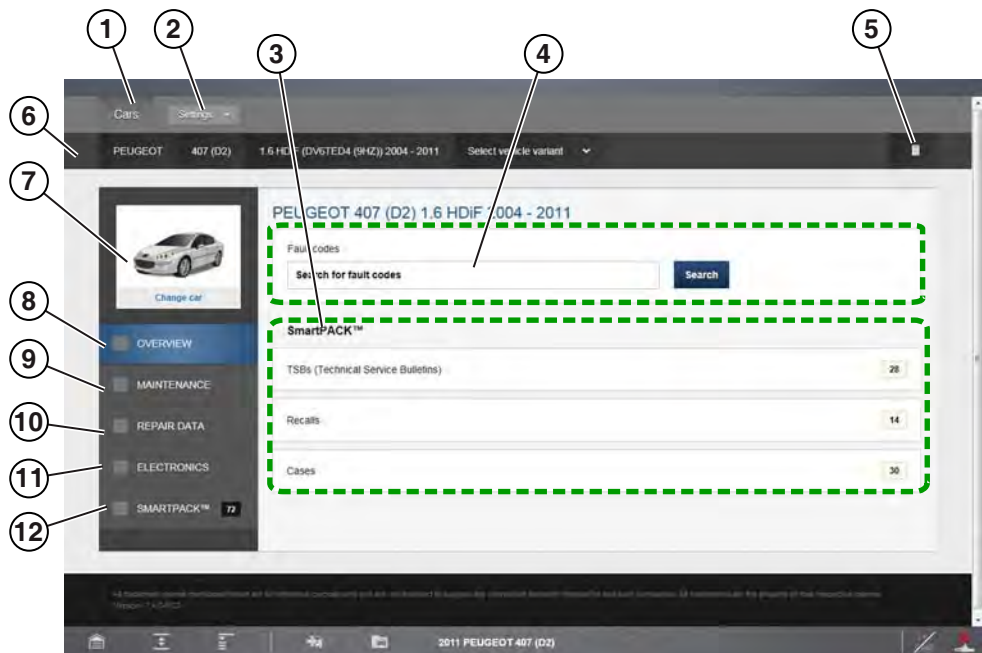

Figure 9-4 Main Screen Features
- If a vehicle is currently identified, a confirmation screen is displayed and by selecting **OK**, the vehicle information is automatically loaded and opens the Main screen (Figure 9-4).
The main screen (Figure 9-4) is the central portal to all vehicle information and includes multiple tabs and functions.